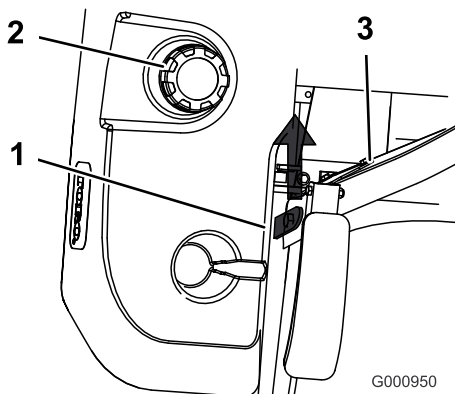

Figure 28
3. Raise the seat up. This will allow access to the machine under the seat (Figure 28).